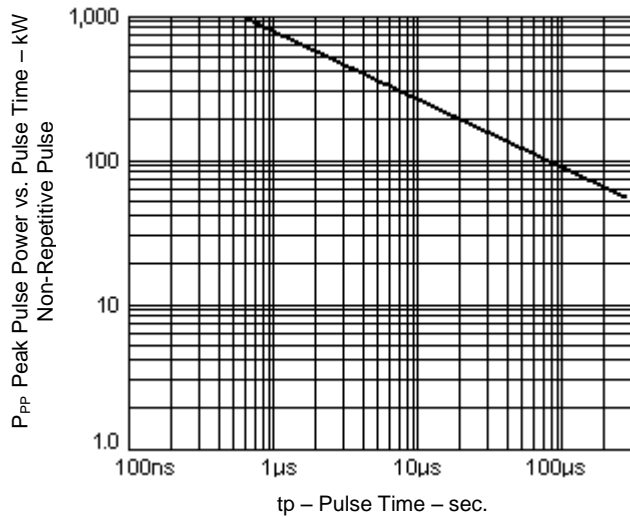
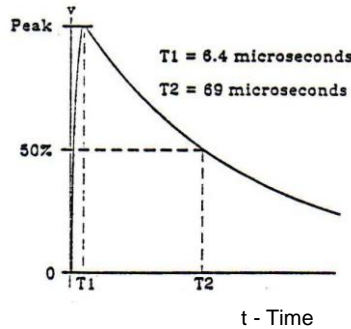

FIGURE 1
FIGURE 8 – Waveform 4
<ul style="list-style-type: none"> ▪ Peak Pulse Power dissipation at 25 °C: 100 kW at @ 6.4/69 μs in Figure 8 (also see Figures 1 and 2) impulse repetition rate (duty factor) of 0.005 % ▪ $t_{clamping}$ (0 volts to V_{BR} min.): < 100 ps theoretical for unidirectional and < 5 ns for bidirectional ▪ Operating and Storage temperature: -65 °C to +150 °C ▪ Thermal Resistance: 17.5 °C/W junction to lead, or 77.5 °C/W junction to ambient when mounted on FR4 PC board with 4 mm² copper pads (1 oz) and track width 1 mm, length 25 mm ▪ Steady-state power dissipation: 7 Watts @ $T_L = 27.5$ °C or 1.61 Watts at $T_A = 25$ °C when mounted on FR4 PC Board described above for thermal resistance ▪ Forward surge: 250 Amps 8.3 ms half-sine wave for unidirectional devices only ▪ Solder temperatures: 260 °C for 10 s (maximum)
NOTE: This P_{PP} versus time graph allows the designer to use these parts over a broad power spectrum using the guidelines illustrated in MicroNote 104 on www.microsemi.com. Aircraft transients are described with exponential decaying waveforms. For suppression of square-wave impulses, derate power and current to 66% of that for exponential decay shown in Figure 1.
NOTE: The 1MHz damped oscillatory waveform (3) has an effective pulse width of 4 μ s. Equivalent peak pulse power at each of the pulse widths represented in RTCA/DO-160E for waveforms 3, 4 and 5A (above) have been determined referencing Figure 1 herein as well as MicroNotes 104 and 120 (found on www.microsemi.com) and are listed below.